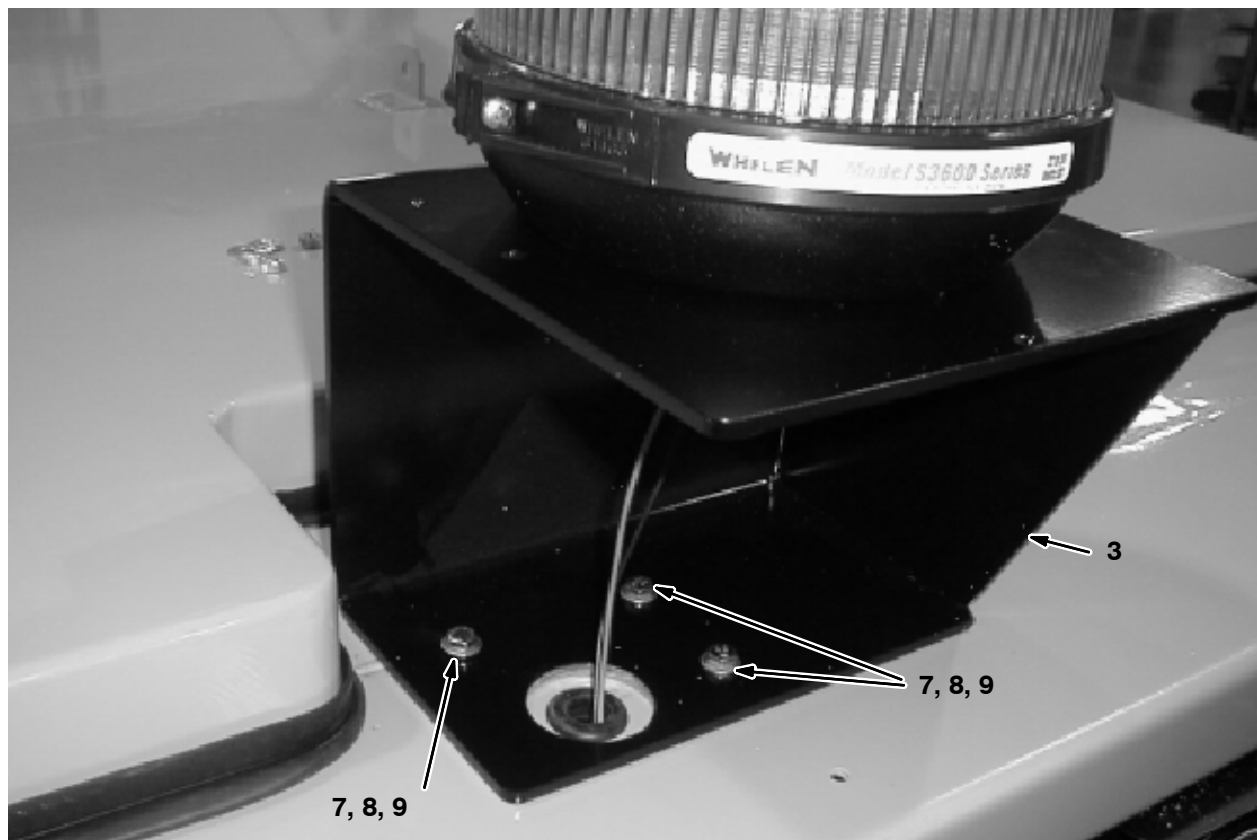

FIG. 18
21. Use mounting hardware to mount the revolving light onto the strobe mounting bracket (3).
22. Use three hex screws (7), three flat washers (8) and three hex nuts (9) to mount the strobe mounting bracket (3) to the hopper. Refer to Fig. 18.
23. Route the wires from the revolving light down through the hole in the mounting bracket (3) and the hole they were previously routed through in the back end of the hopper. Refer to Fig. 18.